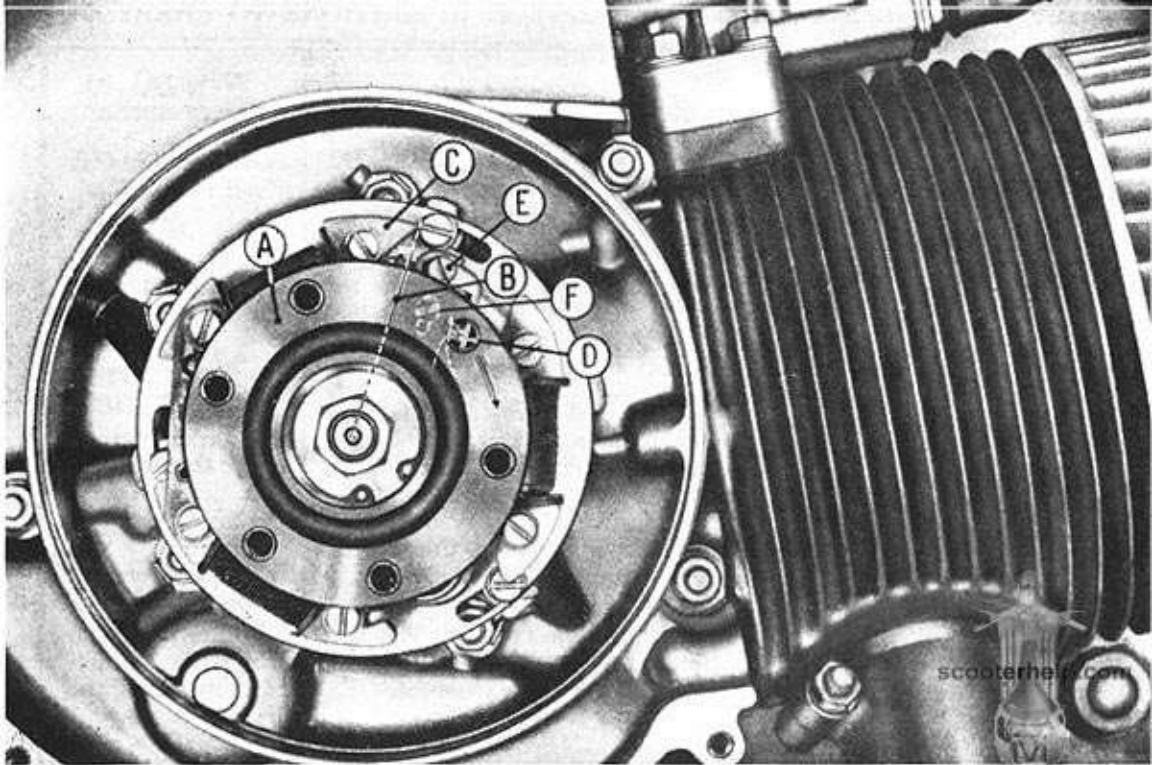

Fig. 19—Operations for checking the “magnetic” timing of the flywheel.
2. Clean and if necessary, adjust the contact breaker points (fig. 19). To avoid faulty ignition or other defects check the flywheel timing (see page 28). **Refer to your Dealer for this operation.**